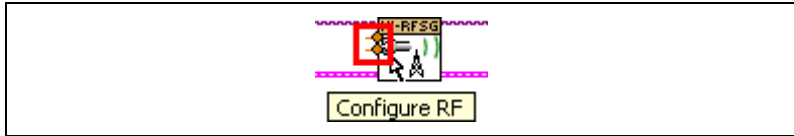

Figure 1-27. Frequency and Power Level Terminals on the niRFSG Configure RF VI
8. Hover the mouse tool over the **frequency (Hz)** and **power level (dBm)** terminals of the niRFSG Configure RF VI. These terminals are highlighted in Figure 1-27.